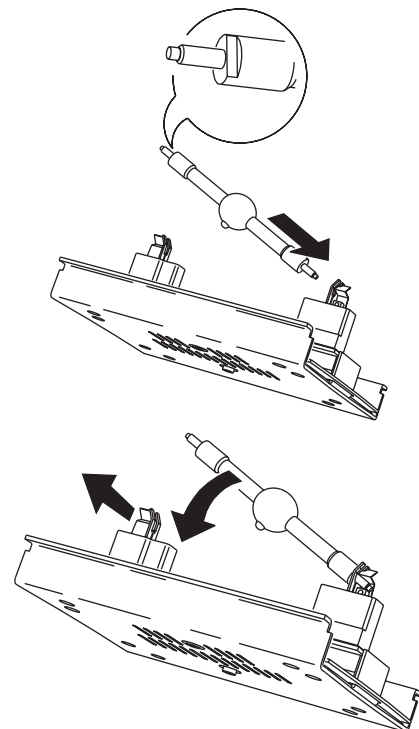

Figure 10: Lamp insertion
The ends of the lamp have specially developed keys, as shown in Figure 10, to ensure proper installation.
- 4 See Figure 10. With the nipple on the bulb facing the back, insert the right end of the new lamp in the socket. Pull up on the left spring and snap the other end into place.